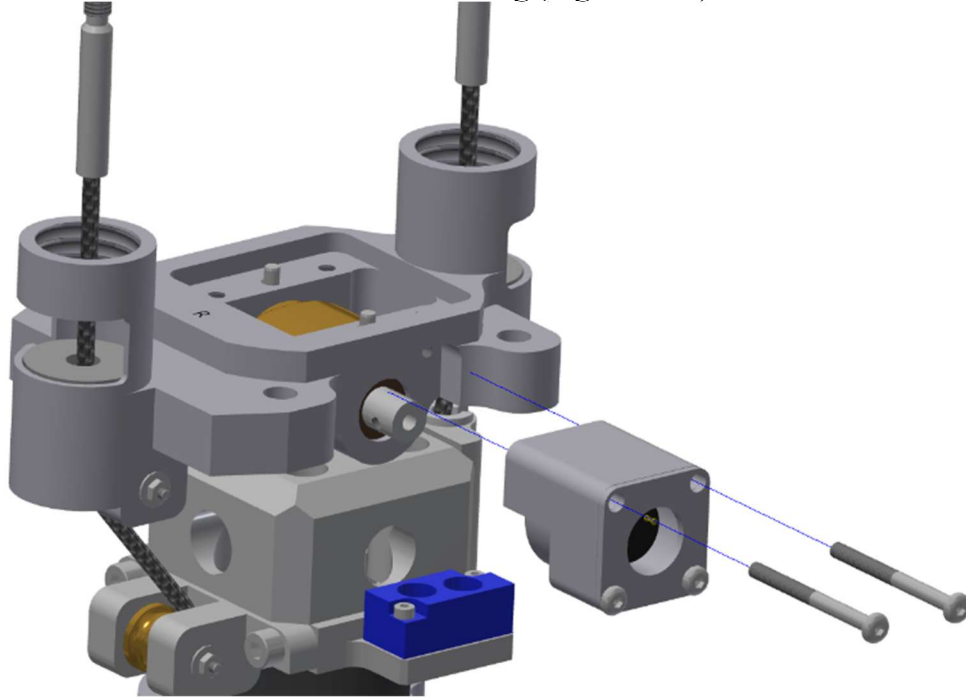

Figure 4-53. Attach rotary potentiometer cover
4.3.27 Attach the Neck Rotary Potentiometer Cover (472-2014) with two M3 X 0.5 X 6 BHCS at the bottom of the housing (Figure 4-53).